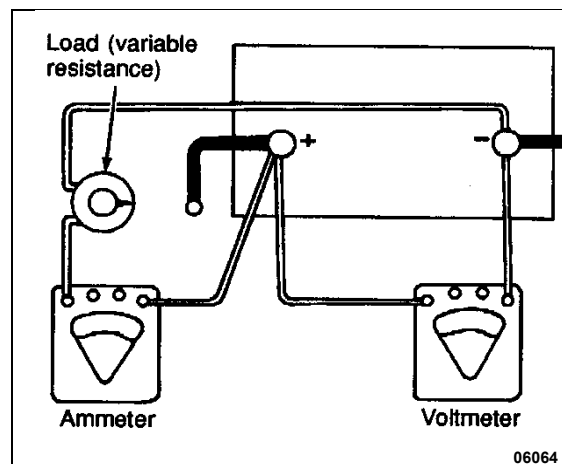

FIGURE 60: LOAD TEST
2. Connect a voltmeter, ammeter, and a variable load resistance as illustrated in Figure 60.